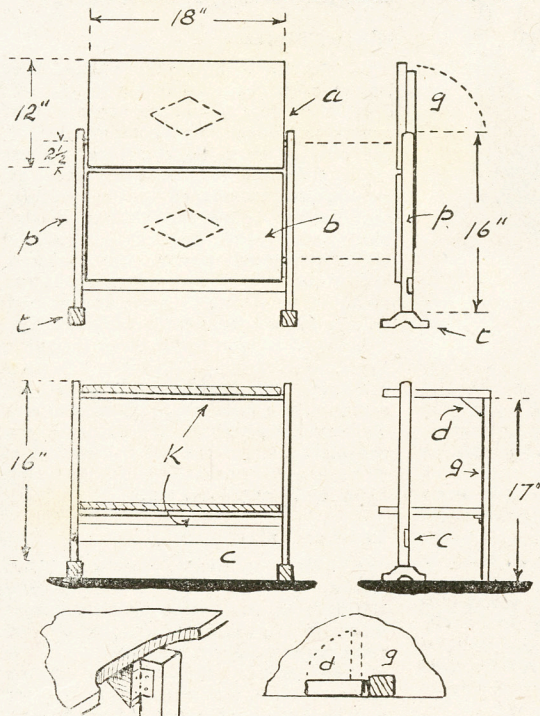

Fig. 1—Front and end view opened and closed
We now have the two levels and side uprights together, but still have to put on the third and supporting leg (g). This is 17in. long and of wood 1in. by 1in. section. It is held in position at the outer edges of the levels by small brass hinges on the underside. If correctly fitted the levels can now be pulled down as in the bottom right-hand sketch (Fig. 1). To make the length fit over the dowelling, however, it is necessary to take out the channel (A) Fig. 2. This is only $\frac{3}{8}$ in. deep and will not weaken the wood. The lower end of (g) misses the second dowel in coming up.